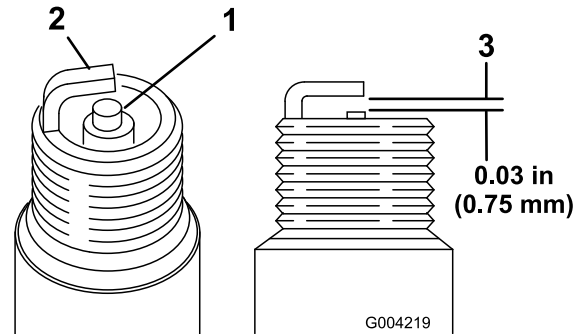

Figure 20
1. Look at the center of both spark plugs (Figure 20). If you see light brown or gray on the insulator, the
2. Check the gap between the center and side electrodes (Figure 20).
3. Bend the side electrode (Figure 20) if the gap is not correct.